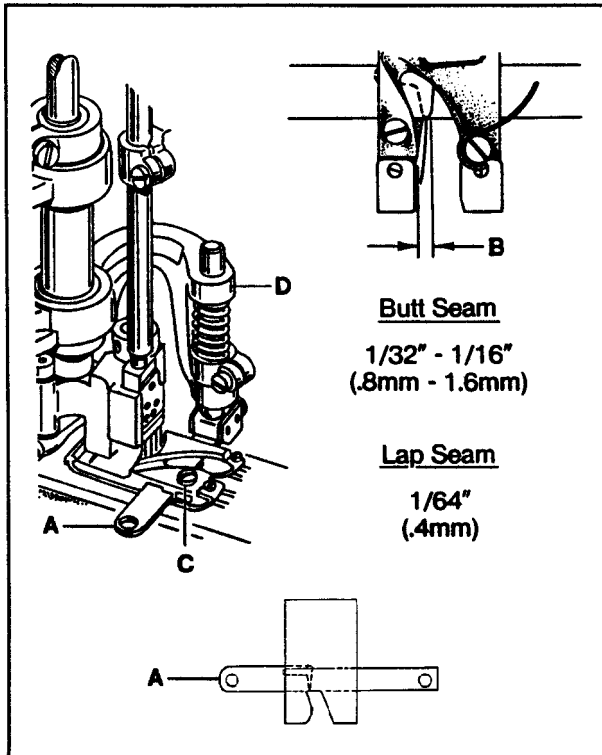

FIG. 29
To make the adjustments for a lap seam, position lower knife (A, Fig. 29) in the foot so it extends  $1/64$ " (0.4mm) past the right side of the left toe (B) (approximately even with the first needle). Loosen screw (C) and move knife in or out as required. Tighten screw (C) securely.